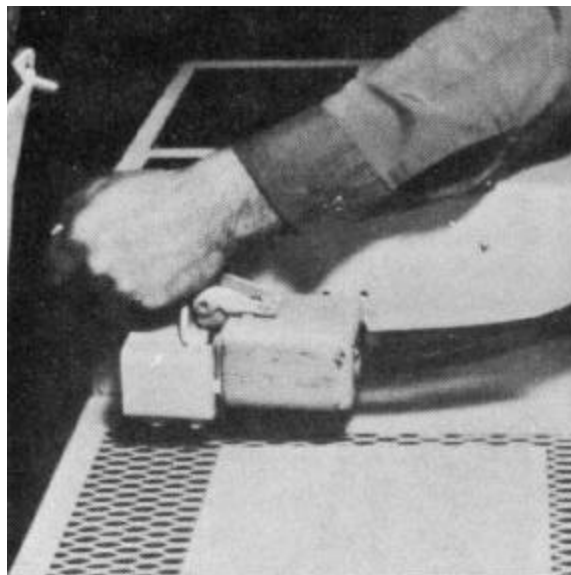

Figure 5-97
3. Disconnect the battery connector (Fig. 5-97).
4. Disconnect the battery (Fig. 5-97). Move each of the hydraulic control handles to the extreme positions to relieve any trapped hydraulic oil pressure.